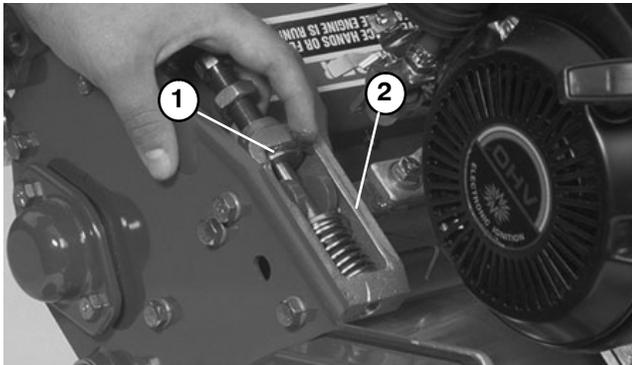

Figure 29
2. Use grease to hold thrust washers against the inside of both frame adjusters (Fig. 29).